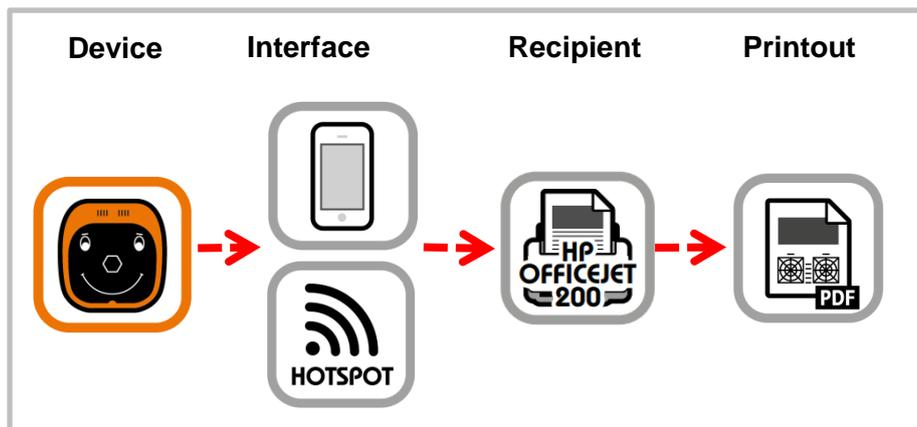

Figure 6: Manual connection via hotspot on your smartphone
- By selecting the appropriate device name „px12-1234“ (see Figure 6), you can access the documents stored on the SD card.
If the device is not displayed, you can search for the IP address "192-184.200.1" displayed on the Plusoptix device (see Figure 6). If a username and password is required, you must obtain the access data from the responsible network administrator.